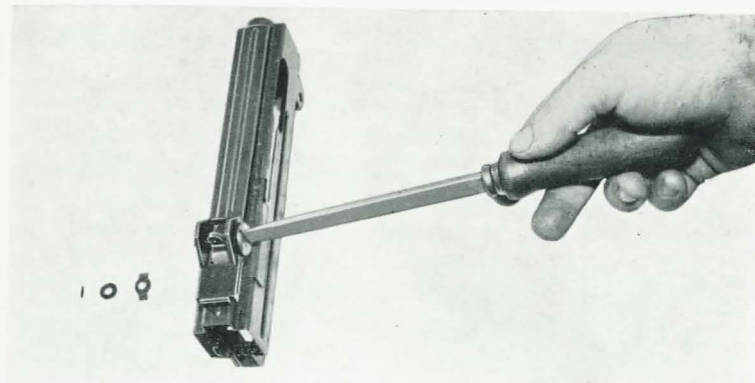

Fig. 78
2. con attrezzo 108 svitare in senso antiorario la vite diottra (fig. 78)
2. with tool 108 unscrew anticlockwise the aperture sight and remove it (figure 78).